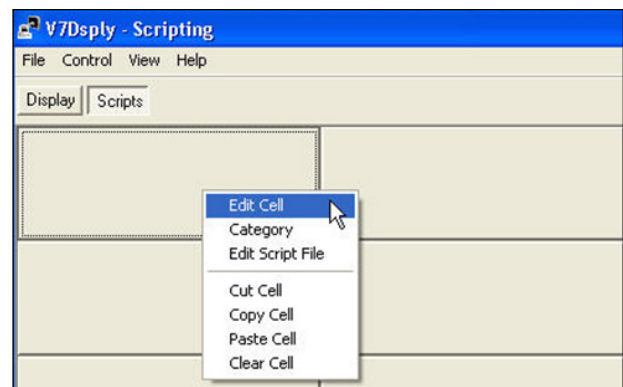

Figure 25: Editing Cell
- On the **V7Dsply - Scripting** window, right-click on an unused cell and select **Edit Cell**. Refer to **Figure 25**.